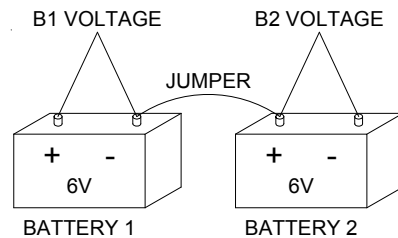

FIGURE 6
- Total voltage = B1 voltage + B2 voltage + jumper voltage drop (see figure 6).